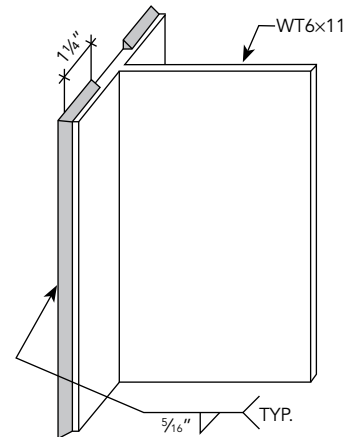

Figure 2
- 3 Does the weld return shown in Figure 2 meet the requirements in the *AISC Specification*?
- 3 No. Section J2.2b of the AISC *Specification* states "For connections where flexibility of the outstanding elements is required, when end returns are used the length of the return shall not exceed four times the nominal size of the weld nor half the width of the part." While the weld return in Figure 2 meets the $4w$ requirement, it exceeds half the width of outstanding element, which is equal to the width ($4\text{-in. flange}/2$) divided by $2 = 1$ in. A weld return of $1\frac{1}{4}$ in. exceeds this 1-in. limit.